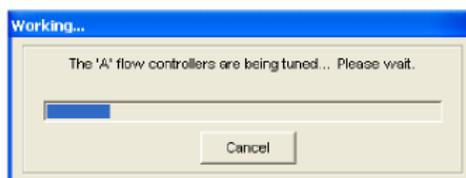

Figure 4-7. Autotune Status Bars – Channel A
step 3 This is followed by status windows (Figure 4-7) which alert you that the system is preparing to Auto-tune and then performing the autotune.